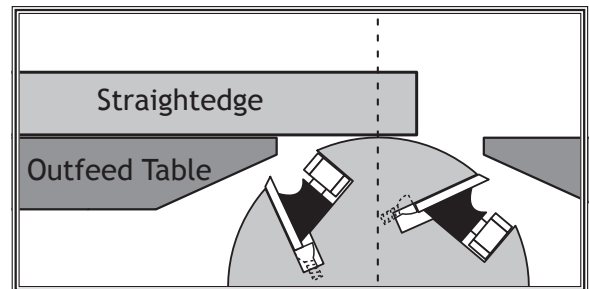

Figure 39. Adjusting outfeed table even with cutterhead body (knife-style cutterhead shown).
4. Rotate motor pulley so that you can access cutterhead body with straightedge between the knives/inserts, as shown in **Figure 39**.